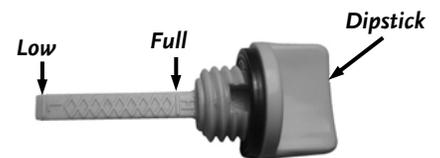

Figure 22
3. Continue adding a few ounces of oil at a time, until the oil reaches the Full line on the Dipstick (**Figure 22**). Be careful not to overfill.